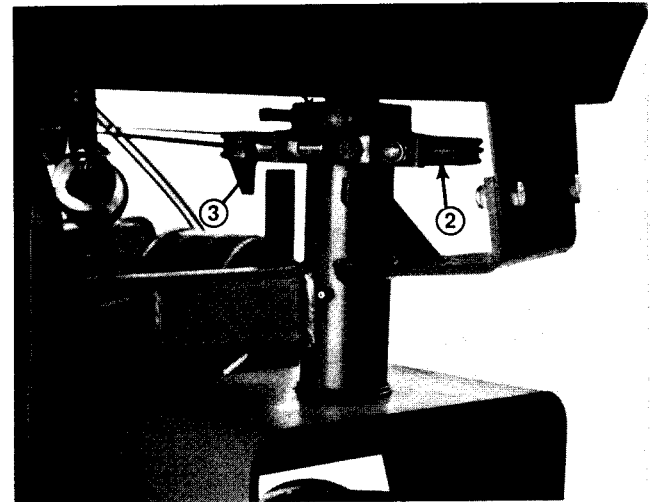

Figure 12
8. Pull on lower end of cable while keeping tension near middle pulleys until entire cable is tight and in proper pulley grooves. Continue to keep tension on cable, then attach cable end to right side of steering drum and tighten nut to keep cable in tension (Fig. 12).